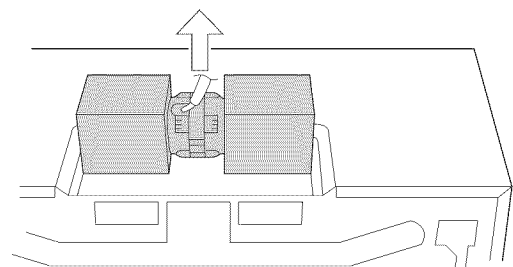

Figure 8
2. Withdraw Hood Fan Unit carefully and slip wires out of Wire Box. See Figure 8.